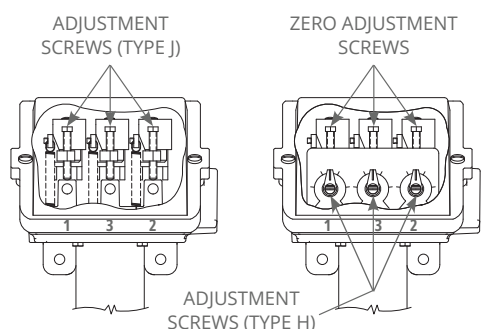

Figure 2
Type “J” controls have an internal screw adjustment and type “H” have internal calibrated dial and pointer (see Figure 2).
- 2 Adjust set point by turning adjustment screw clockwise to raise set point, or counterclockwise to lower set point (see Figure 2). When making adjustments, do not exceed the proof pressure rating on nameplate as this may cause a shift in set point.
- 2 Adjust set points by turning adjustment screw clockwise to raise set points, or counterclockwise to lower set points (see Figure 2). When making adjustments, do not exceed the proof pressure rating on nameplate as this may cause a shift in set points.
- 2 Adjust each set point by turning adjustment screw and pointer to desired value on scale (see Figure 2). Scale division for models are noted in product datasheet.
- 4 If recalibration is required, connect device to a calibrated pressure gauge. Follow instructions in step 2 until switch(es) transfer. If the set point(s) chosen on the dial(s) does not match the pressure gauge, turn each zero adjustment screw (see Figure 2) clockwise to raise the pressure or counterclockwise to lower the pressure until the dial(s) and gauge match.
- 2 Adjust each **fall** set point by turning the adjustment screw clockwise to raise each set point or counterclockwise to lower each set point (see Figure 2). The **fall** setting is constant.